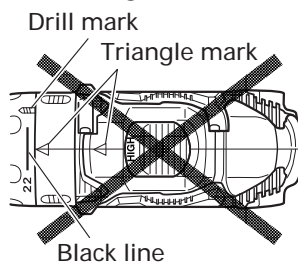

Fig. 24
- Do not use with the cap numeral at "22" and the black line at the middle of the drill mark. Doing so may cause damage. (See Fig. 24)